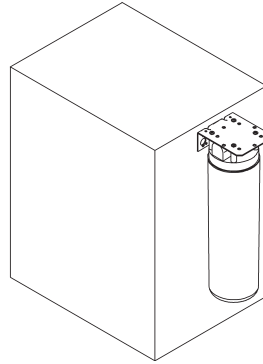

FIG. 10
**LNTE MODEL:** Mount filter head assembly to side of chiller (See Figure 10). Make connection between filter and building supply line (3/8" O.D. tube not provided). Inlet port is marked on the chiller (1/4" O.D. copper tube). Install a 1/4" x 1/4" union (provided) on the inlet port. Insert the 1/4" poly tubing (provided) into fitting on filter and connect to the union on the chiller. **DO NOT SOLDER TUBES INSERTED INTO THE UNIONS AS DAMAGE TO THE O-RINGS MAY RESULT.** (See Figures 9 or 13).
5. **Install** the fountains. Remove access cover plates on underside of fountains and save the screws. Mount the fountains to the upper panel and the wall frame with (4) 5/16" x 3/4" (19mm) long bolts and nuts (provided). Tighten securely.